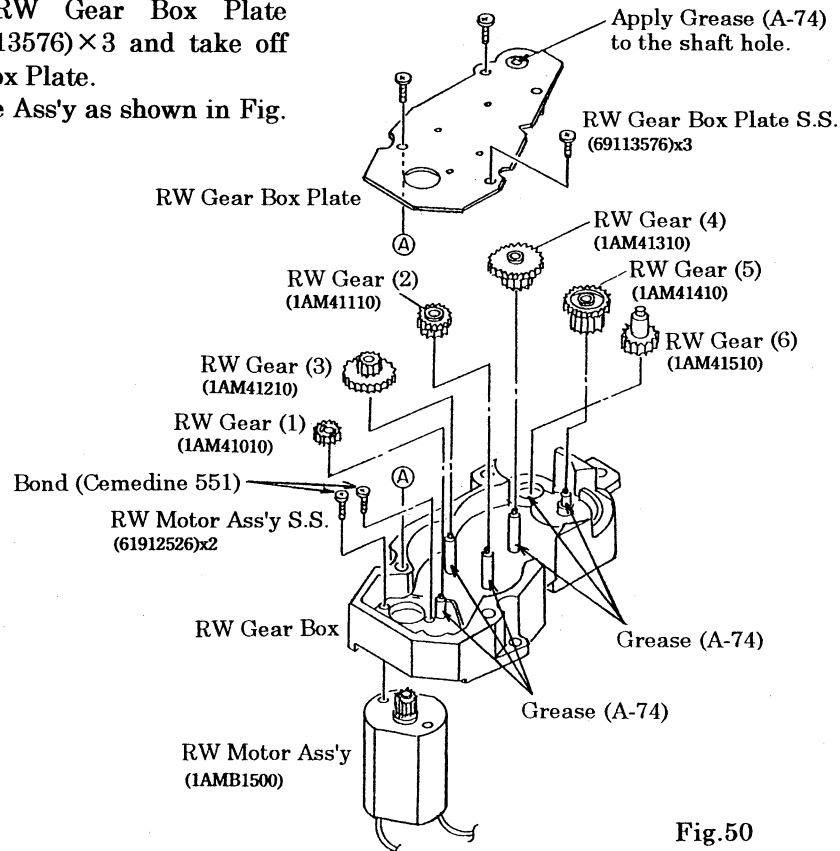

Fig.50
- 2) Disassemble the Ass'y as shown in Fig. 50.